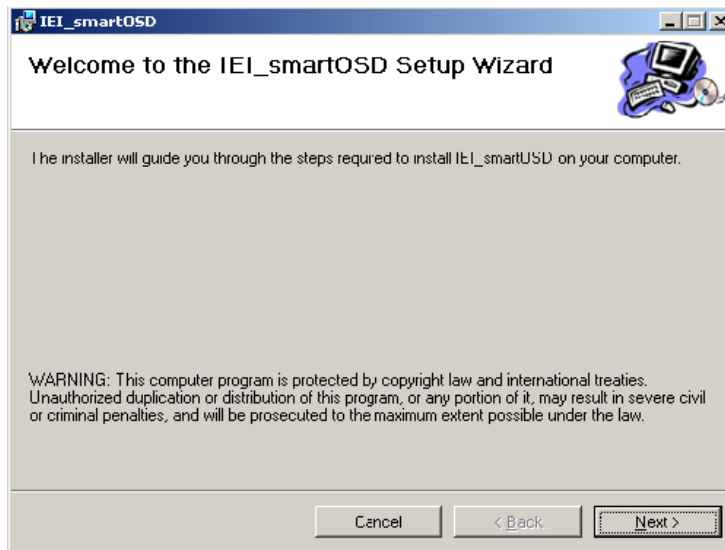

Figure 8-3: smartOSD Welcome Screen
Step 3: The welcome screen shown in **Figure 8-3** appears.